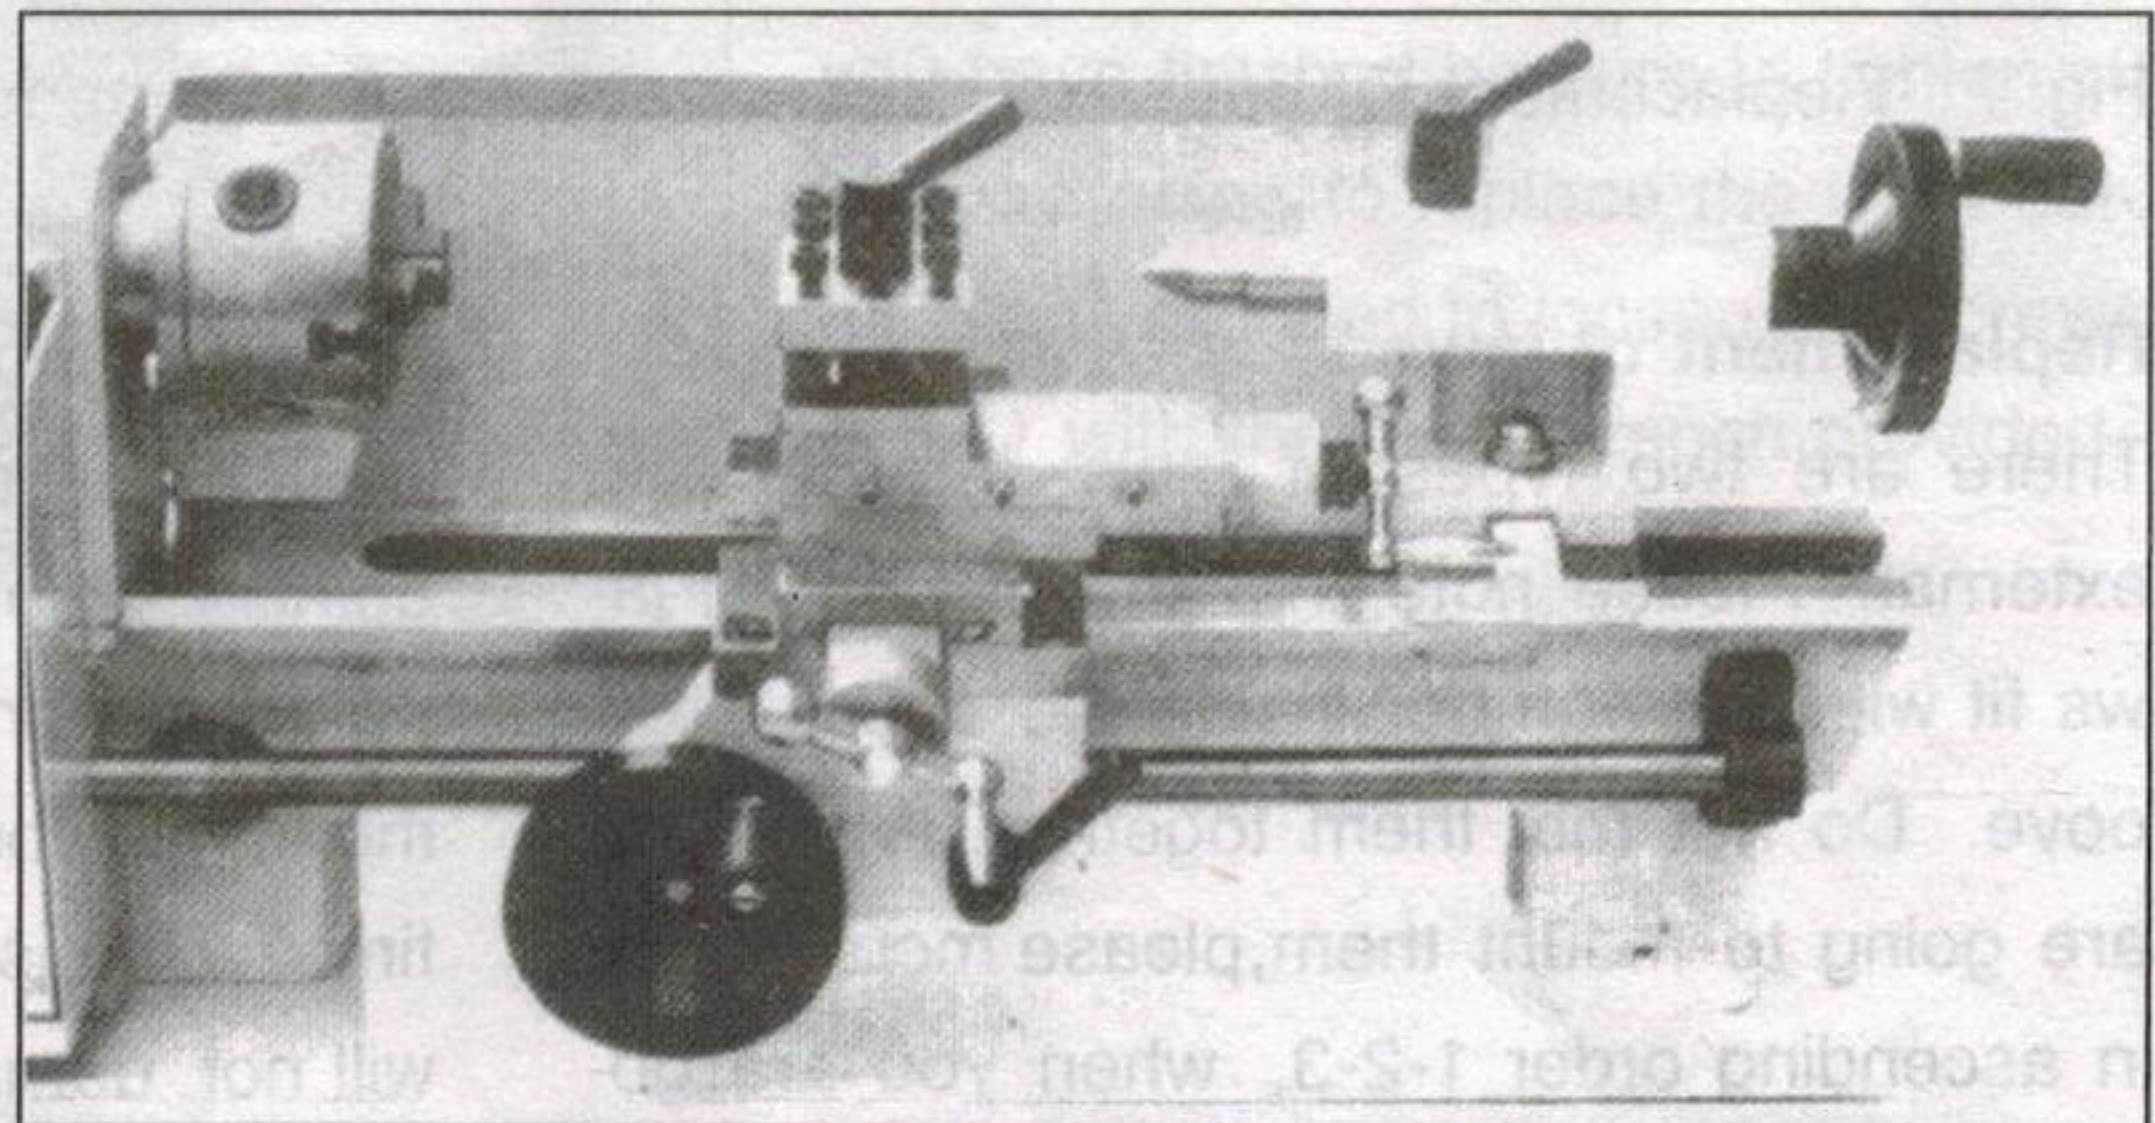

Fig. 5 Ajustment Of Saddle , Cross Slide And Compound Rest
- 6. Check the compound rest crank and the cross feeding crank and see if they work properly. If they are too tight or too loose, turn the adjusting screws located at both sides. (Fig. 5)